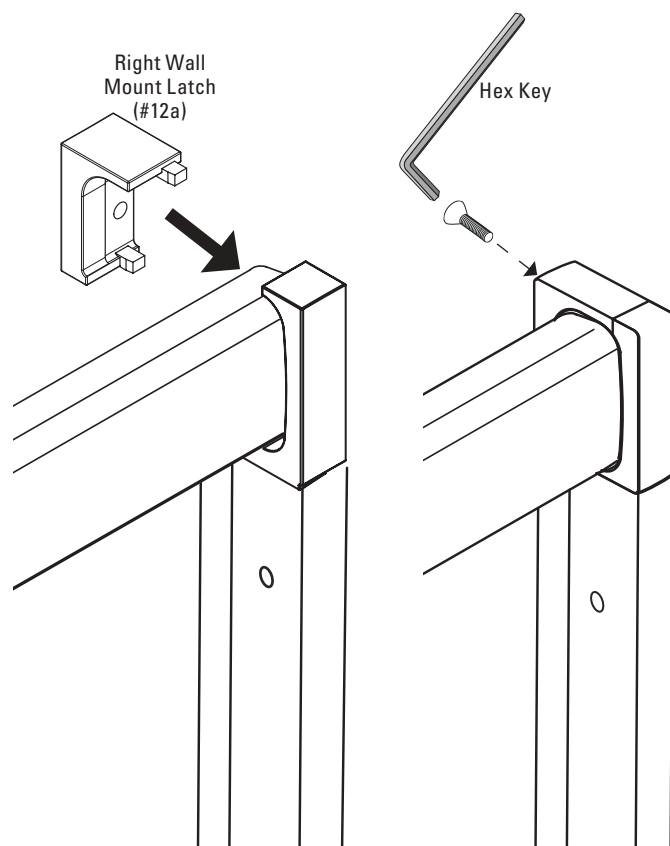

Figure 8
- D.** Reattach the Latches on the Wall Mount Brackets with the #10-32 Hex FH Screws. Using the Hex Key, tighten the screws on each Wall Mount Bracket (See **Figure 8**).